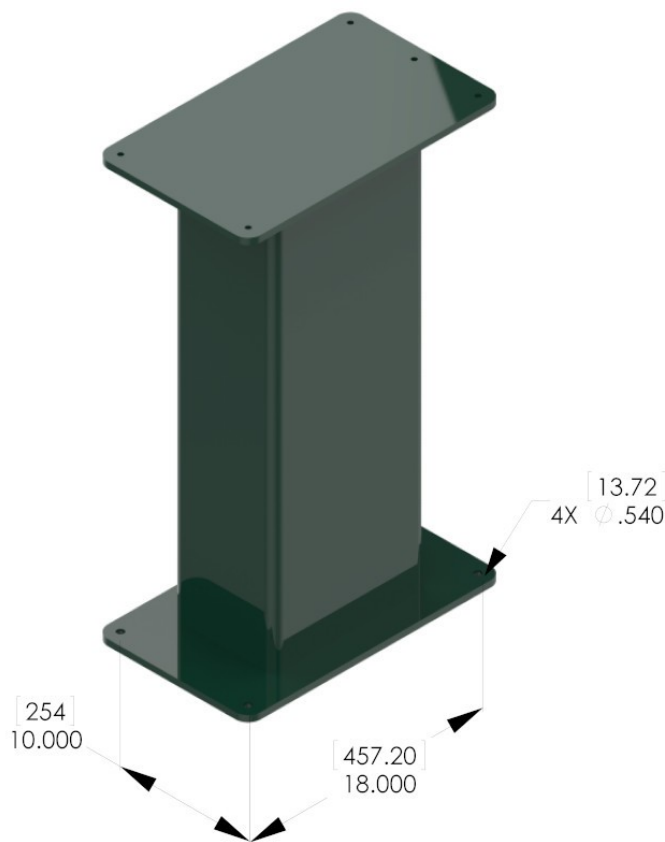

Figure 1: SFS92 Base Plate mounting holes
The SFS92 Servo Finishing Stand is secured by four (4) fasteners passing through mounting holes located in the Base Plate. The Base Plate mounting hole locations are shown in Figure 1. The SFS92 must be securely mounted to keep the unit from moving during operation, and must be mounted level to achieve the desired force output. A spirit level can be placed on the top of the Finishing Stand and shims can be inserted under the Base Plate as required.